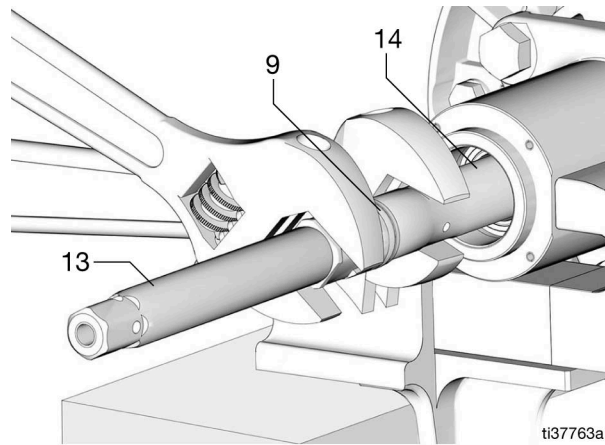

FIG. 12
- Position a wrench on the displacement rod (14) flats and position another wrench on the fluid piston (9) flats. Loosen and remove the fluid piston (9) (FIG. 12).